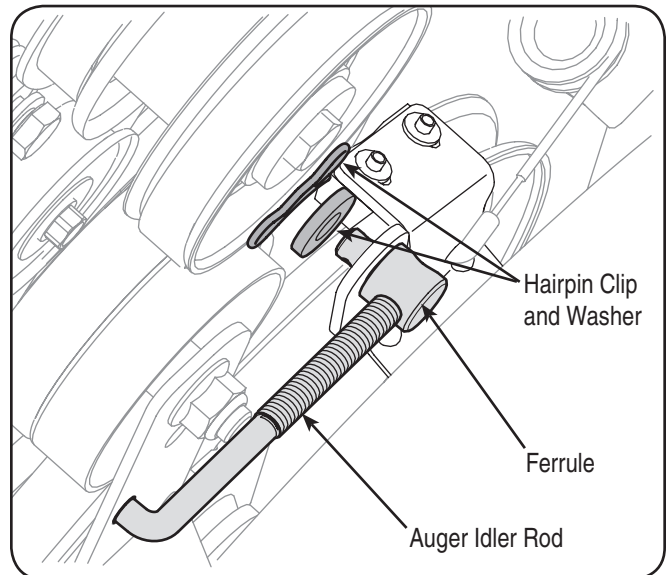

Figure 8-4
1. Remove the bow tie clip and flat washer from the ferrule in order to disconnect the auger idler rod from the brake bracket assembly. See Fig. 8-4.